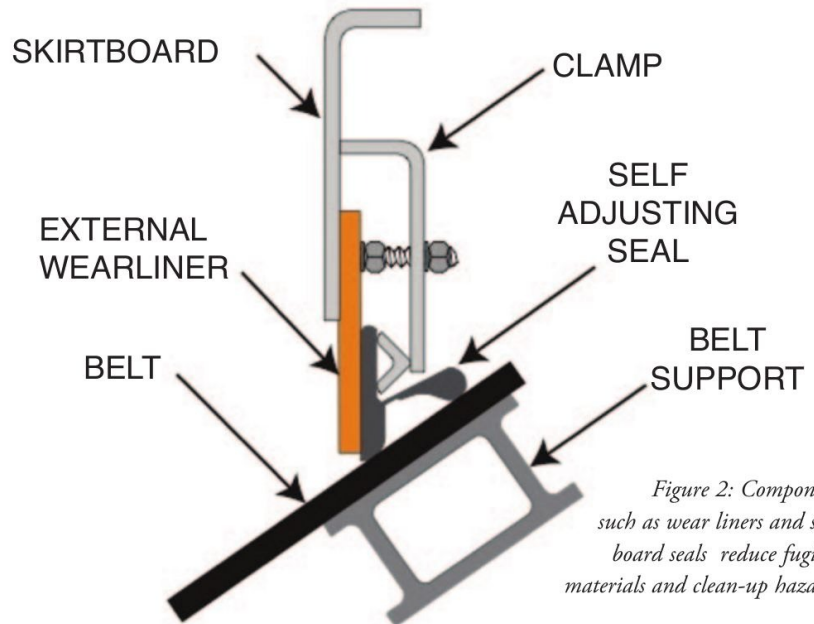

Figure 2: Components such as wear liners and skirt board seals reduce fugitive materials and clean-up hazards.
- ❖ Externally adjustable or self-adjusting skirting that's able to contain fine particles and adapts to fluctuations in the belt plane. [Fig.2]